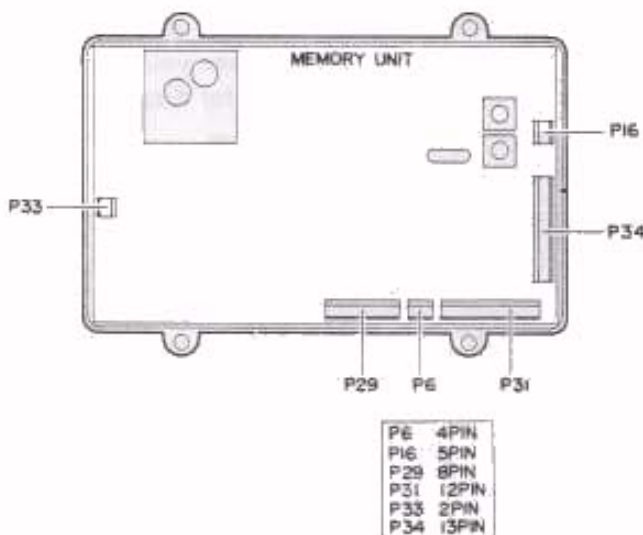

Figure 3
- (2) Connect the six plugs which are fastened to the cover to the appropriate jacks on the Memory Unit, as shown in Fig. 3.